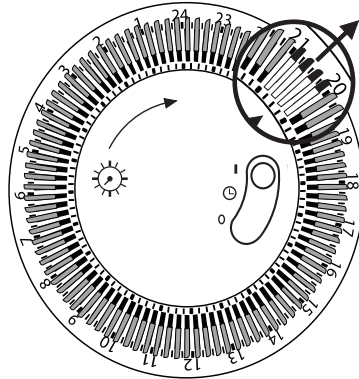

Fig 1
1. Turn the radiator upside-down on a scratch-free and stable surface to prevent damage to the paint finish or your floor surfacing (see Fig 1).
NOTE: To set the heater to turn on at 8pm and turn off at 9pm, push 4 segments between 20 and 21 outwards (Fig 1).